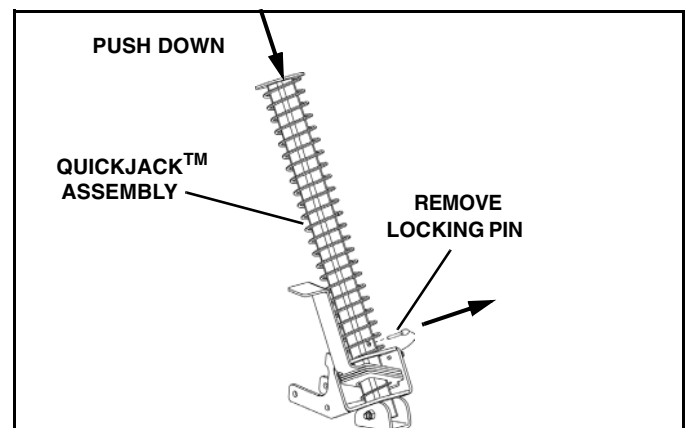

Figure 1-46
2. Release strap and lower jack. Remove the QuickJack™ locking pin. Push the center tube down to fully lower the jackstand. (See Figure 1-46).